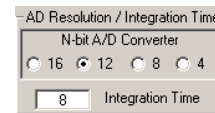

FIGURE 12. ADC RESOLUTION AND INTEGRATION TIME
- **Integration Time** in Figure 12, corresponds to the resolution of the internal ADC and the number of bits allocated to representing Count. Higher resolution (more bits) requires a large number of counts and will need longer acquisition (integration) time.